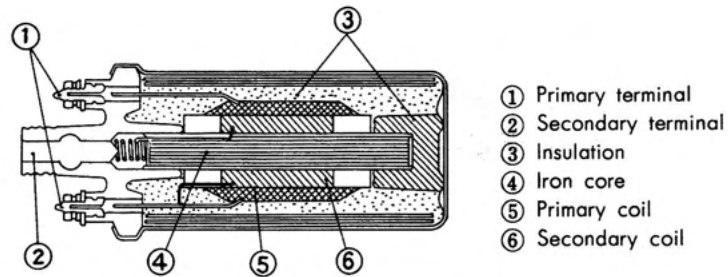

Fig. 1-5. Function diagram of ignition coil of Model CB72, 77
The principle of ignition coil is similar to that of induction coil. As shown in Fig. 1-5, rotating cam axle and crank with constant periodical relation, there generates high voltage on the secondary coil as follows.
- h. Then returning cam angle to original state to actuate the function as stated (a) to follow the same process repeatedly. (Fig. 1-5~1-7).